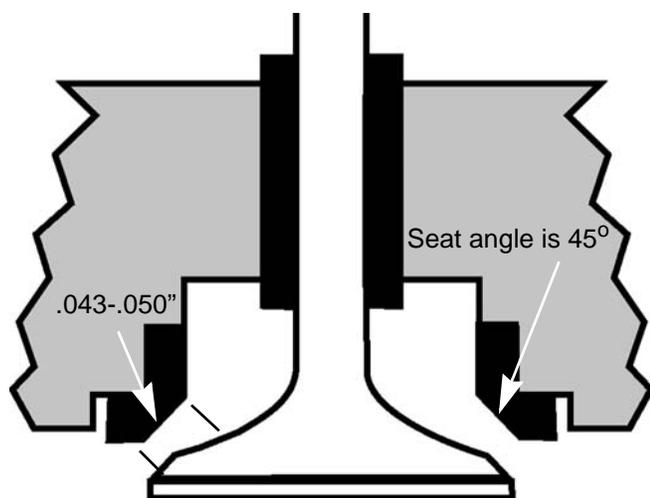

Figure 9.10
6. Inspect the valve seat. See Figure 9.10.